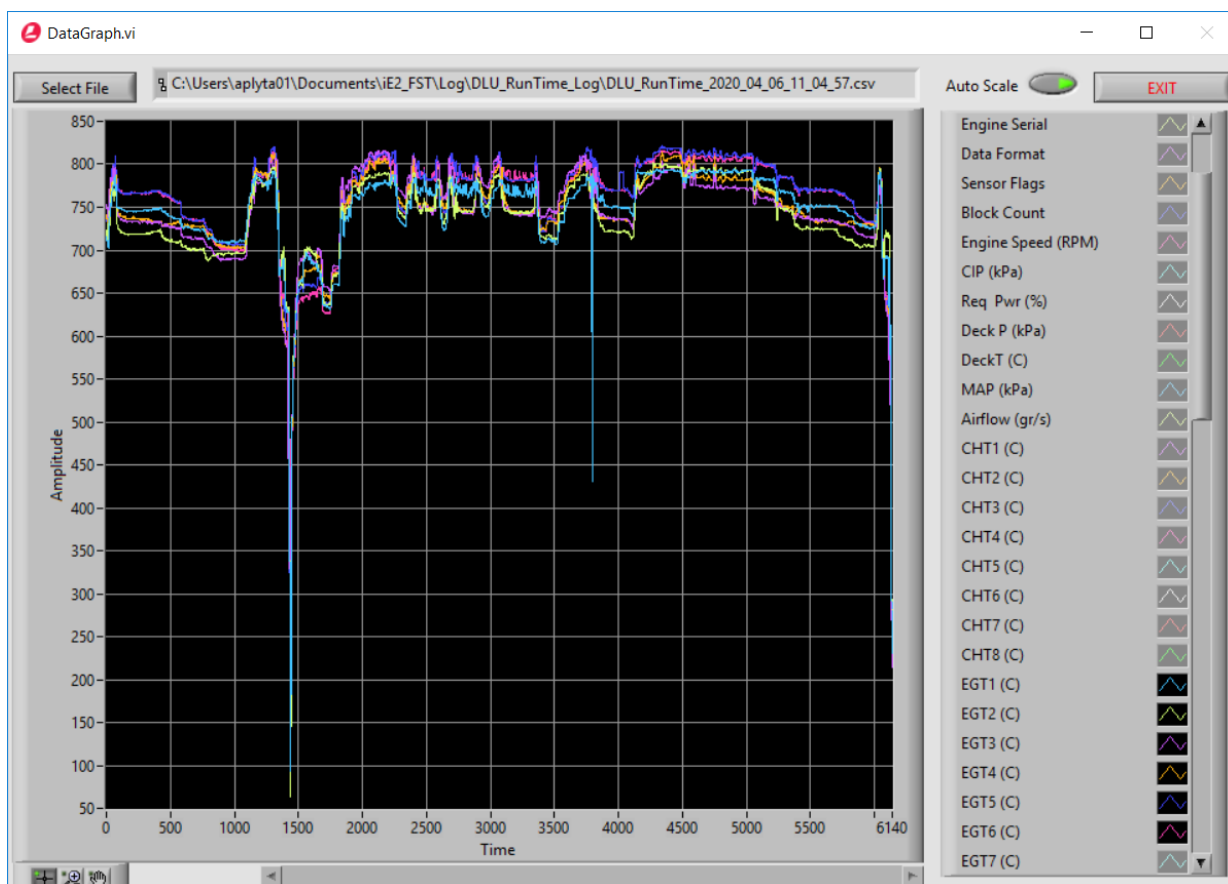

Figure 19
7. Display multiple data plots on the screen by Right or Left clicking the buttons for the data you want to plot from the right-hand column. As an example, Figure 19 shows data plots for all six EGTs.